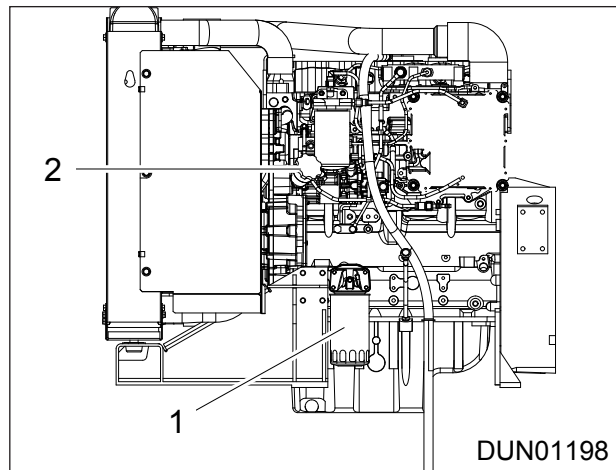
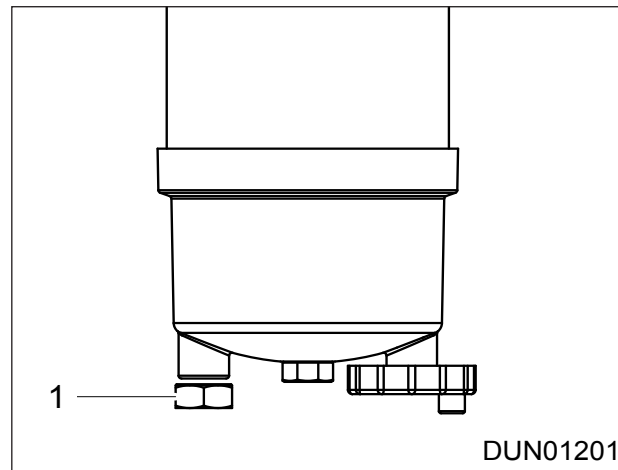

Figure 9.21 - Engine Oil Filter
Figure 9.23 - Water Trap
3. Unscrew the drain bung (Item 1, Reference: Figure 9.23) at the bottom of the water trap (Item 2, Reference: Figure 9.21) and allow the water to drain out into a suitable container.